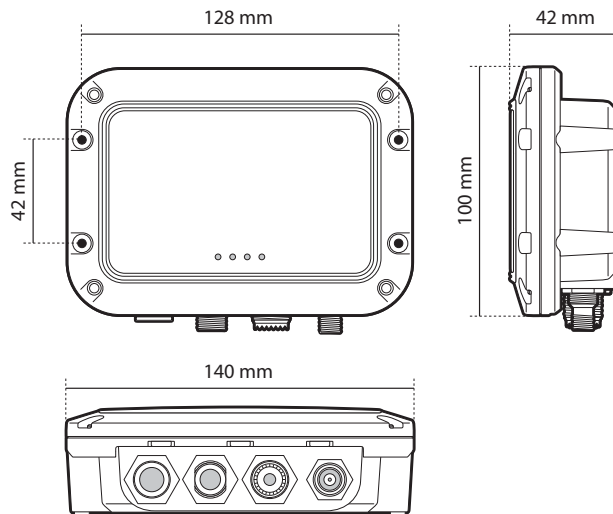

Figure 5 AIS transceiver dimensions
- There should be adequate space around the AIS transceiver for routing of cables. See Figure 5 for details of the AIS transceiver dimensions.